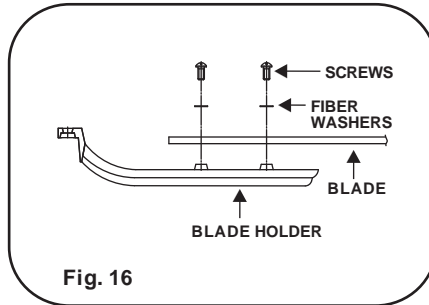

Fig. 16
Step 1. Attach the fan blade to the blade holder using the screws and fiber washers provided. Tighten screws securely. Repeat process for remaining blades.(Fig. 16)